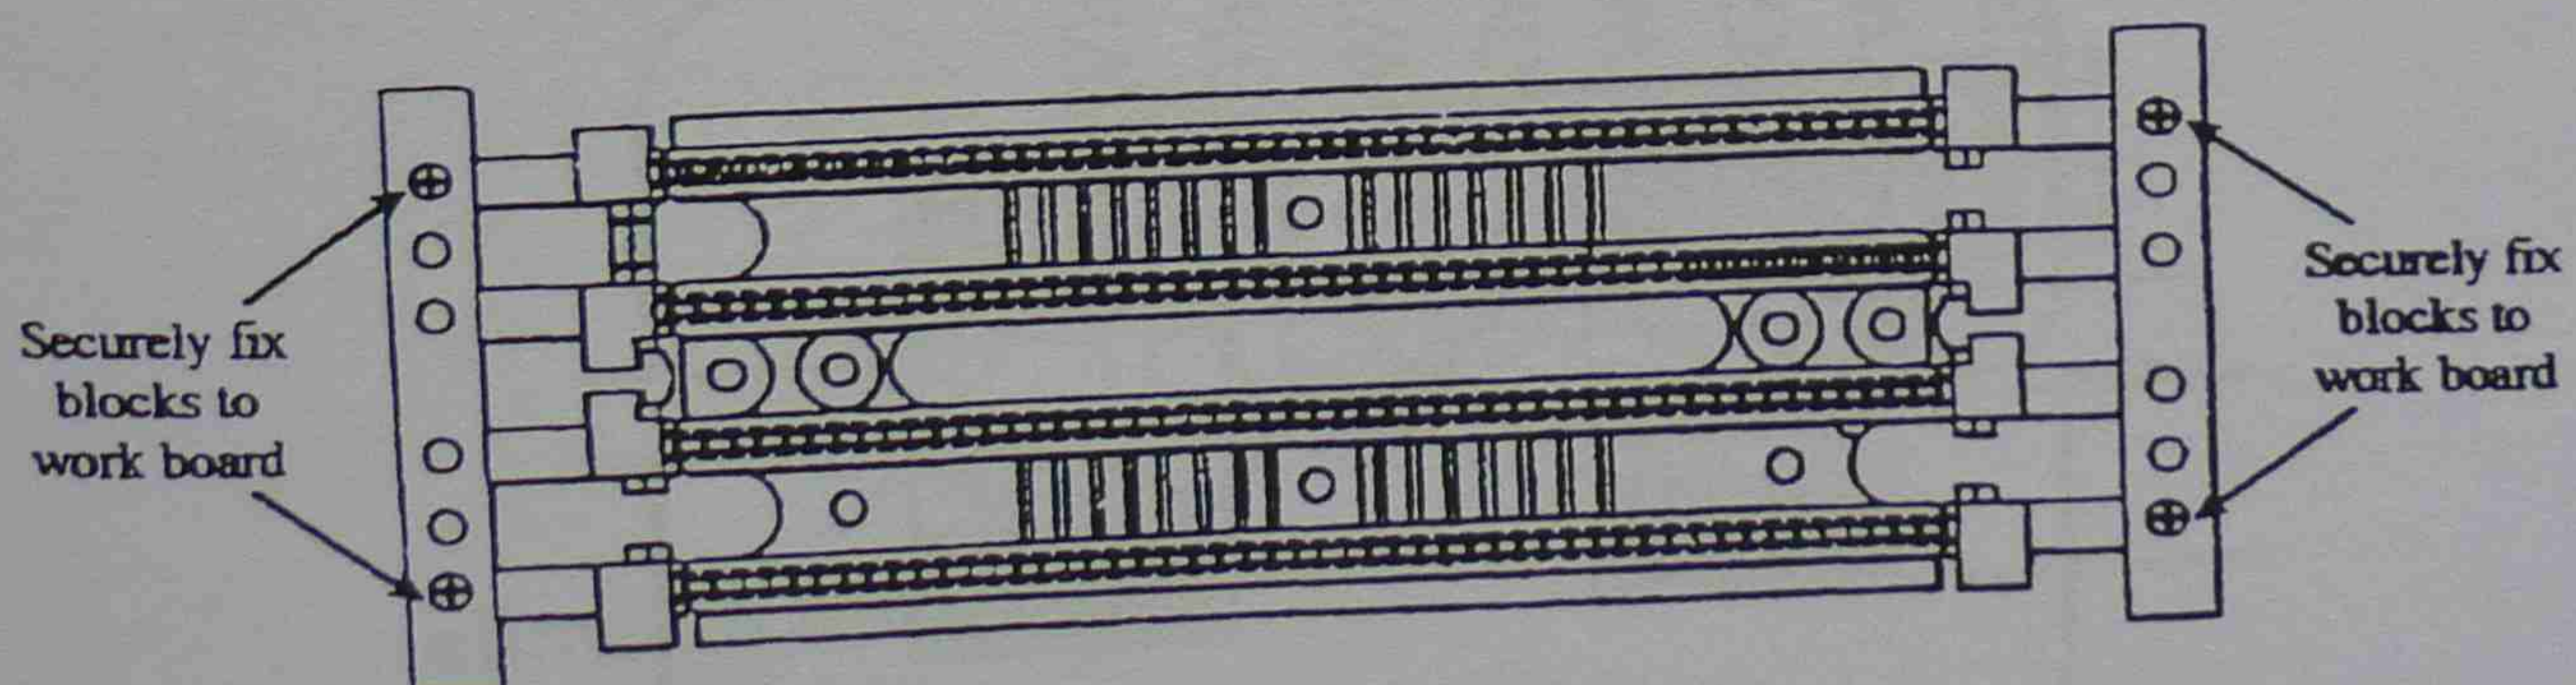

Figure 40 Installing the frame
3. Ensure secure fixing of the plastic frame to the mounting surface. Use Figure 40 as a guide.